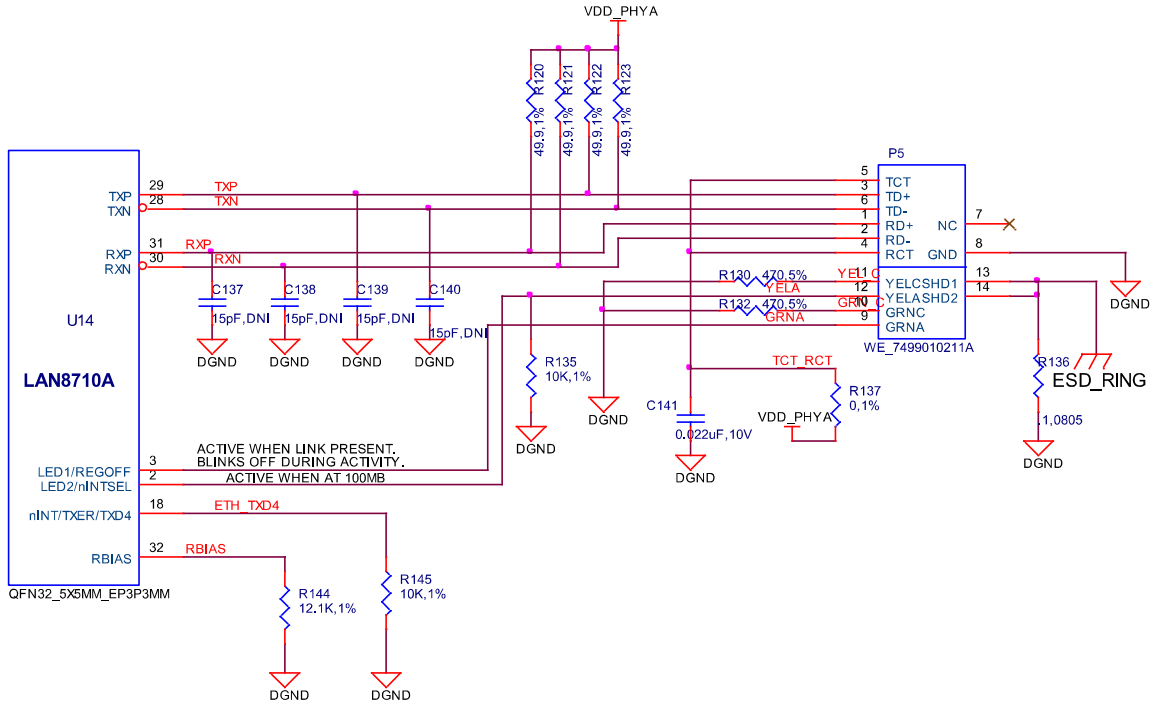

**Figure 40. Ethernet Processor Interface**
**Figure 40** shows the connections between the processor and the PHY. The interface is in the MII mode of operation.